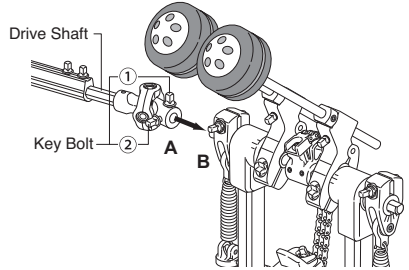

Fig. 13
Connect the ends of the Drive Shaft (A) to the short extensions (B) on the Main and Slave Side Pedals and tighten Key Bolt 1 and then Key Bolt 2 (Fig.13 ,14).